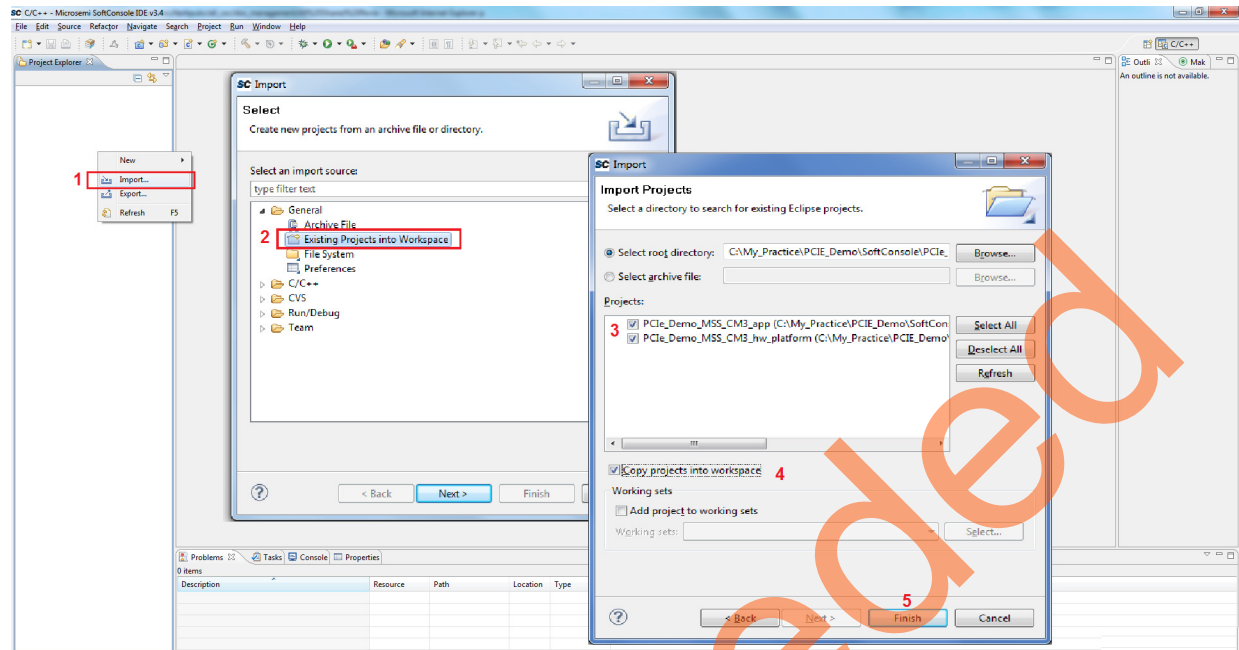

Figure 32 • Import the Existing Project into Workspace
2. Import the existing project into workspace as shown in Figure 32.